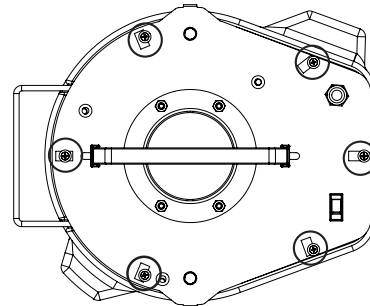

FIG. 2
- 2 Remove the six screws on the bottom of the motor assembly as shown in [FIG. 2].